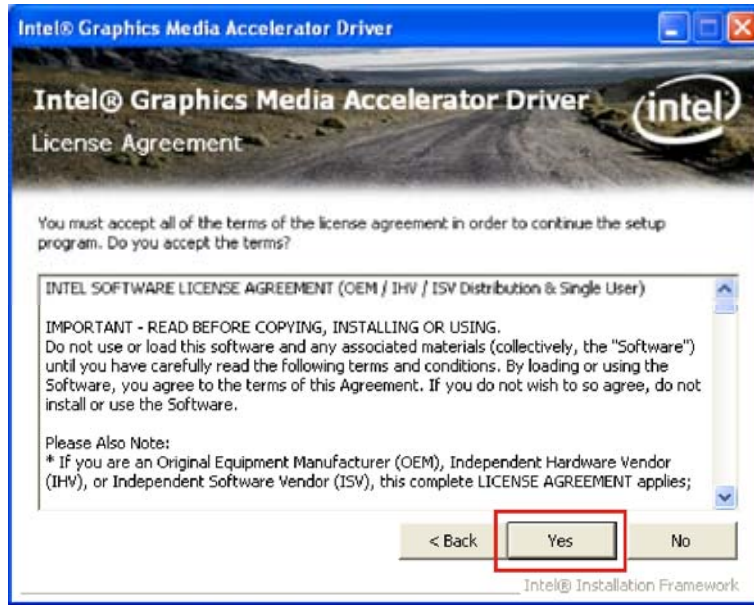

Figure 7-12: VGA Driver License Agreement
Step 27: The license agreement in **Figure 7-12** appears.